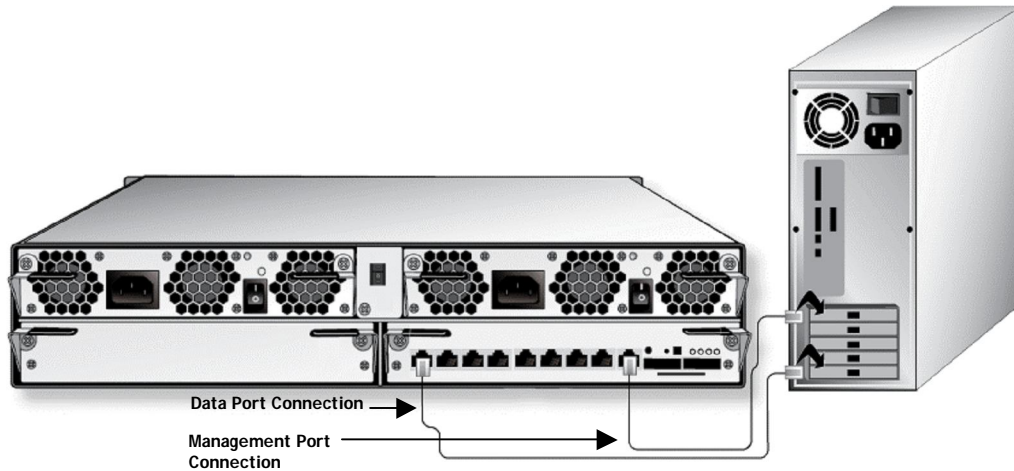
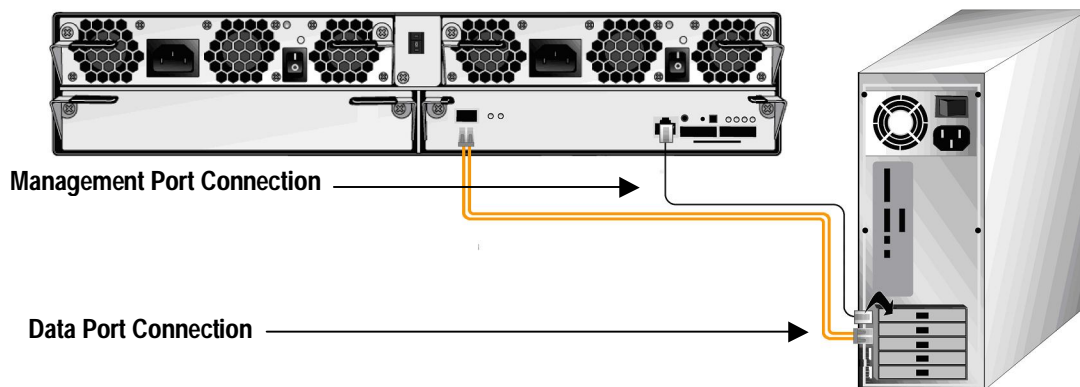
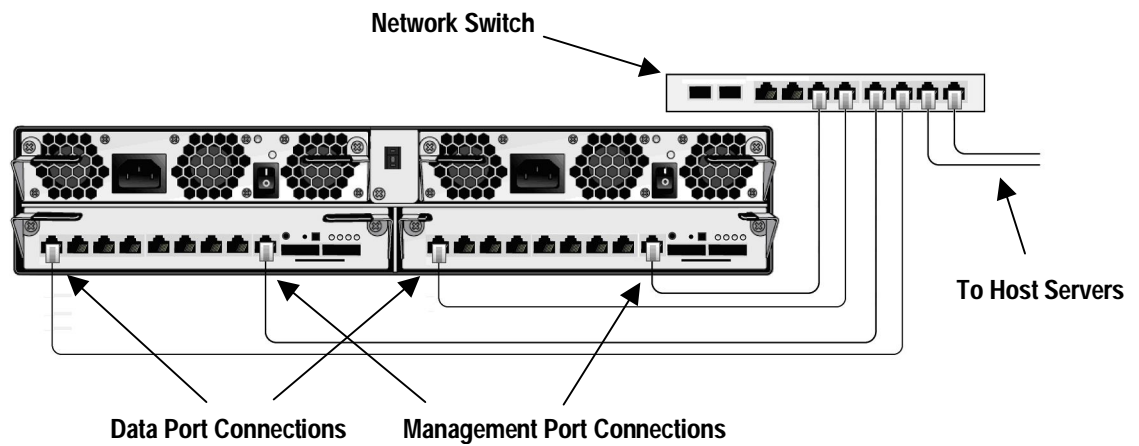
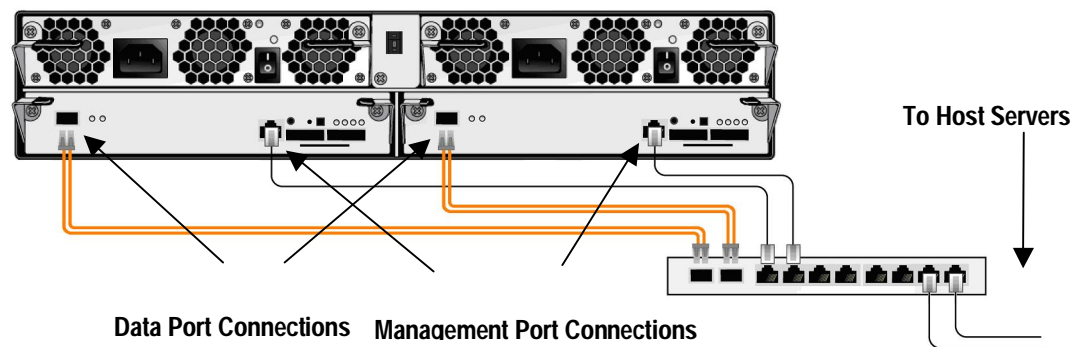

Figure 3-1. Connecting Data and Management Ports (DSN-5210-10 w/ Single Controller)
Figure 3-2. Connecting Data and Management Ports (DSN-5410-10 with Single Controller)
Figure 3-3. Connecting Data and Management Ports (DSN-5210-10 with Dual Controllers)
Figure 3-4. Connecting Data and Management Ports (DSN-5410-10 with Dual Controllers)
1. Attach one end of an Ethernet cable to the data port labeled **iSCSI 0** on the DSN-5110-10 or 5210-10 primary array back panel (see Figure 2-5 and Figure 3-1). Connect the other end of the cable to your SAN or host system.
1. Connect one end of a single mode or multimode XFP optical cable to the DSN-5410-10 storage system optical host network connection port (see Figure 2-5 and Figure 3-2).
2. Connect the other end of the cable into the DSN-5000 series primary array **MGMT** port (see Figure 2-5 , Figure 3-1, Figure 3-2, Figure 3-3 and Figure 3-4).